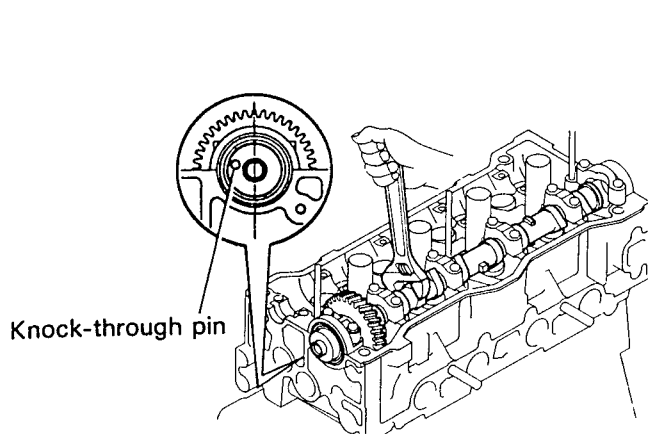

Fig. 1
8. Set the knock-through pin of the exhaust camshaft as shown in Fig. 1 below.